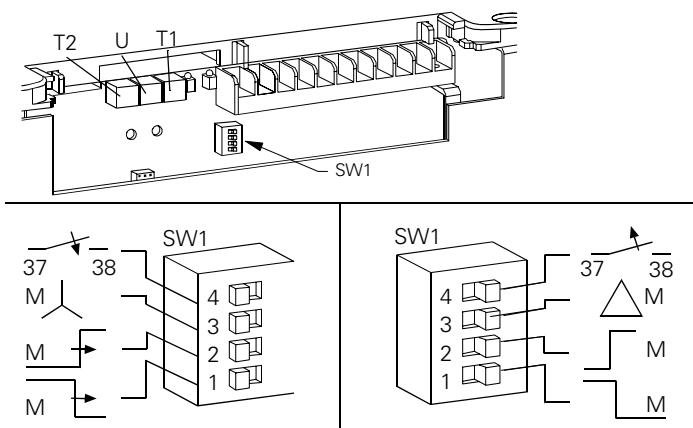

Fig. 20 : Setup Controls
The setup controls are at the right side of the soft starter and are accessible without removing the cover. Fig. 20 shows the controls: three potentiometers, T1, U, and T2; and DIP switch SW1. Values for the potentiometer settings are listed in Table 5. Use a small screwdriver to change the potentiometer setting, rotating clockwise to increase and counterclockwise to decrease.
**T1 - Start Time.** This 16-position potentiometer sets the acceleration ramp time from 0.5 to 60 seconds maximum. This setting determines the time interval for the voltage to increase from the initial setting (U) to line voltage.
**T2 - Stop Time.** This 16-position potentiometer sets the coasting ramp time from 0.5 to 60 seconds maximum. This setting determines the time interval for the voltage to decrease from line voltage to the initial setting (U). Note: The voltage for the final torque is 80 % of the setting for "U".
**SW1 - DIP Switch.** This switch has four sections for setting the soft starter software to correspond to the application. Each switch is positioned by sliding it to the right or left as illustrated in Fig. 20 (or up or down when the soft starter is mounted vertically). On the wiring diagrams in Section 6, the position of each switch is indicated by an arrow pointing to either the right or left.